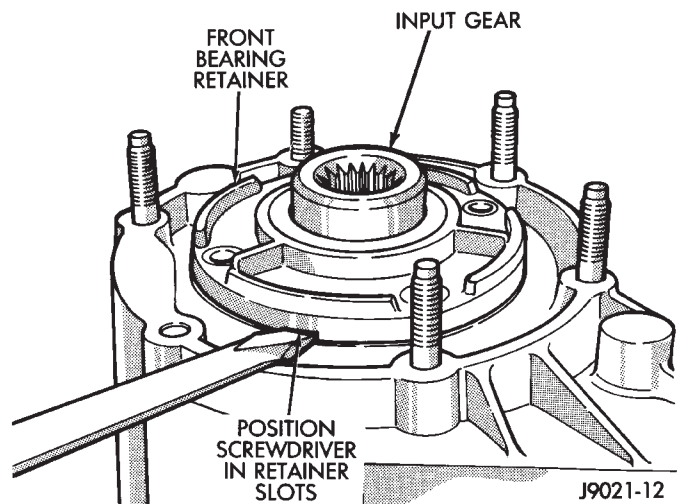

Fig. 23 Removing Front Bearing Retainer
(33) Remove front bearing retainer. Position screwdrivers in retainer slots and lift upward to loosen and remove retainer (Fig. 23).